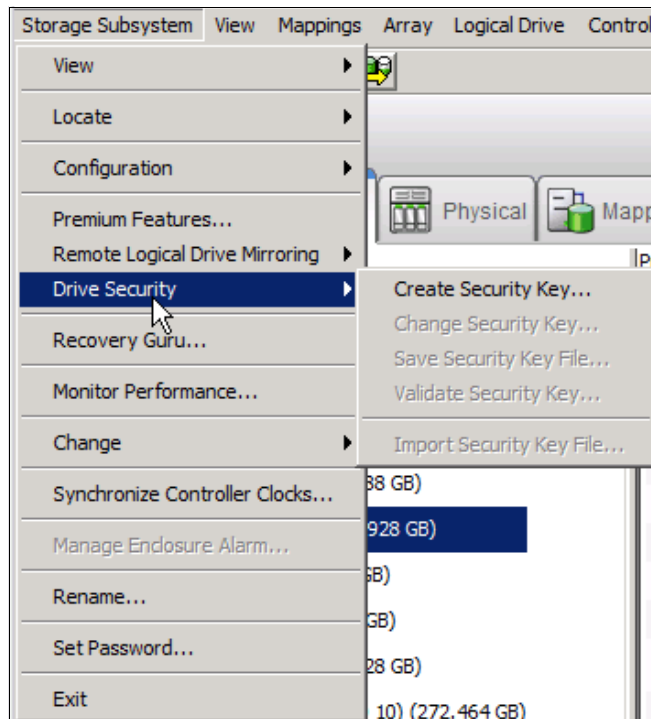

Figure 15-8 Create Security Key
1. Click **Storage Subsystem** → **Drive Security** → **Create Security Key** in the top left corner of the IBM System Storage DS Storage Manager Subsystem Management window as shown in Figure 15-8 on page 449.